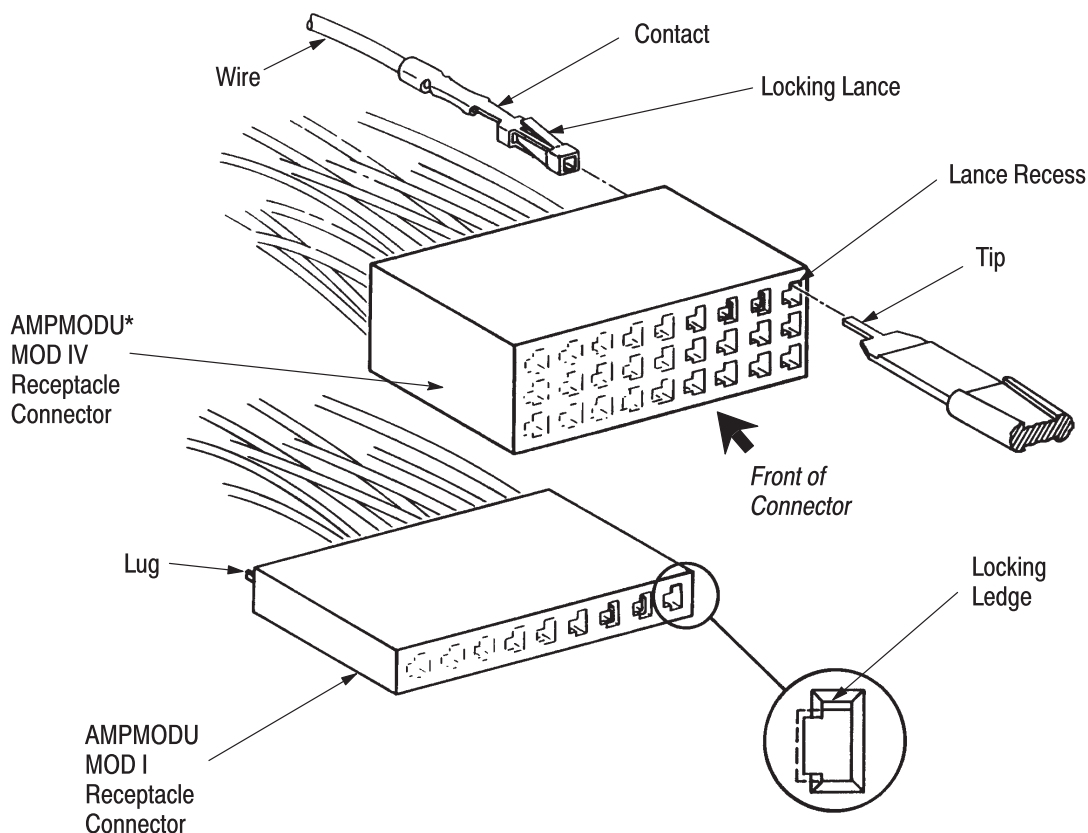

Figure 1
3. EXTRACTION PROCEDURE (Figure 1)